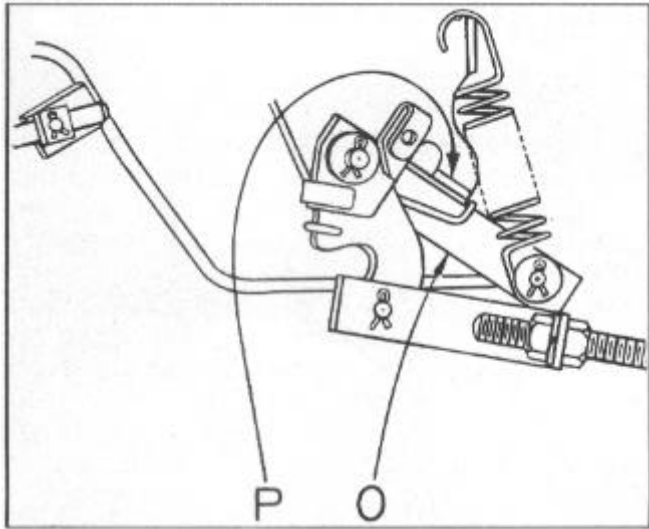

FIGURE 3
Depress clutch pedal (Important) and start engine; do not race engine. Put transmission in second gear manually and release the brake s. Slowly rotate the accelerator bell-crank (0) Figure 3, until clutch drags. Adjust the throttle cross shaft screw (T), Figure 11, 480-490 Mechanical Procedure Manual, until there is a slight increase in engine speed to 625-750 RPM at time car begins to move.